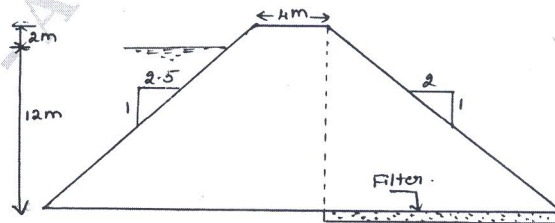

Fig.Q4(b)
- b. Fig.Q4(b) shows a homogeneous earth dam. Calculate the seepage per meter length, through the body of the dam. Coefficient of permeability of the dam material can be taken as $8 \times 10^{-3} \text{ cm/s}$. (10 Marks)